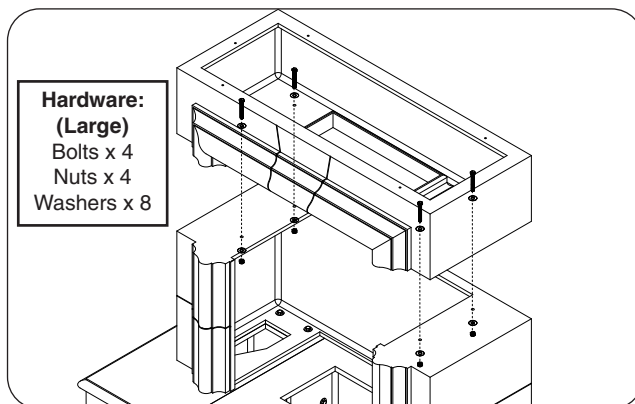

Fig. 23-4 Assemble middle body
1. Place the middle body piece on top of the base body piece. Carefully align the pilot holes, and repeat the hardware installation process (large hardware kits). See Fig. 23-4.